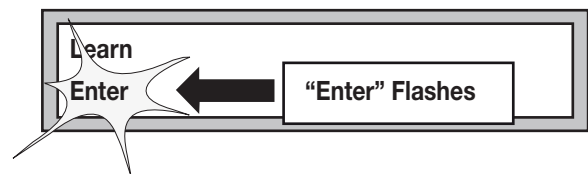

Figure 10 - LCD DISPLAY
4. Turn on the electrical power to the unit. The control board is already in the "LEARNING MODE" when shipped (see Figure 10), but in order to select the right kind of gate press FUNCTION, then LEARN then select SWING, then select LIGHT or AVERAGE or HEAVY, then press ENTER.